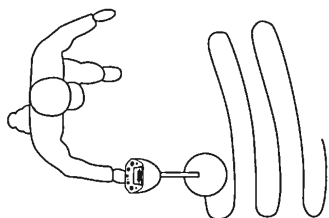

Figure 11
3. Sweep the Search Coil (19) slowly back and forth in an arc, keeping it about 1/2" to 2" from the ground. See Figure 11, above.